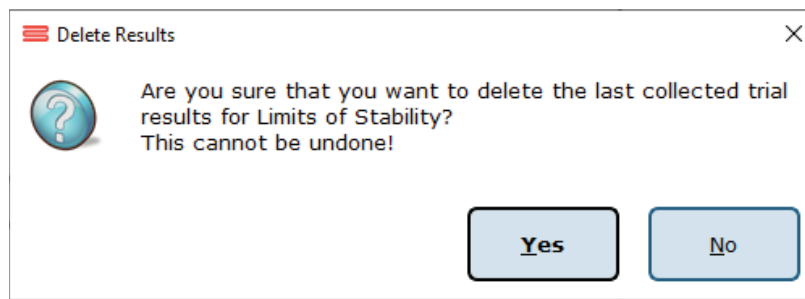

Figure 31: Delete Trial Verification
2. In the popup window that appears, shown in Figure 31, choose either Yes, I want to delete the last collected trial, or No, I do not want to delete the last collected trial.